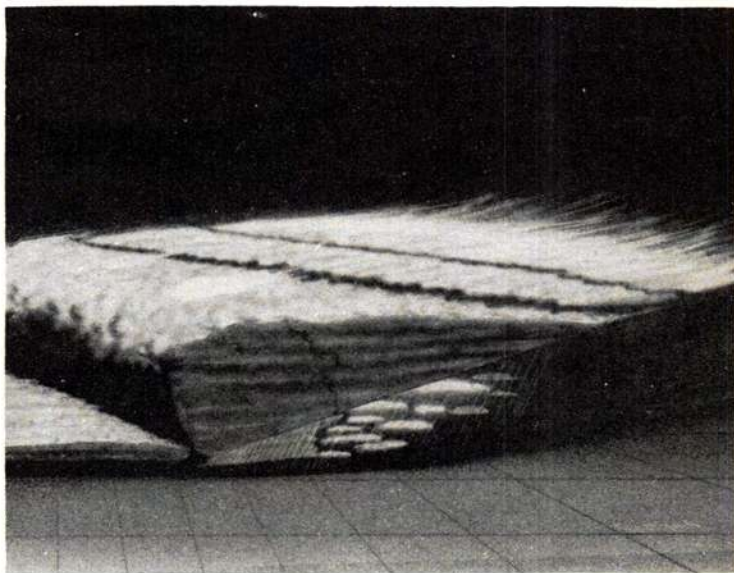

Figure 4-6-1. Typical warm front.
**Dimensions.** The warm front may be from a few hundred miles to 1,000 miles in length and is normally about 600 miles wide. The main cloud system may extend to an altitude of 30,000 feet. (See fig 4-6-1.)